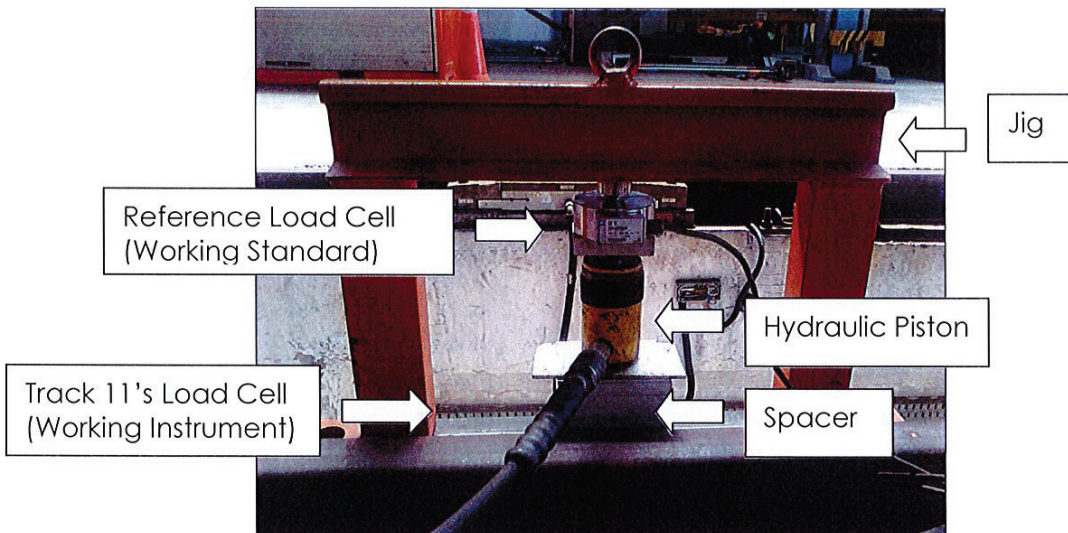

Figure 6.1.3.1 The apparatus arrangement
4. Proceed with the process depicted in Figure 6.1.3.2 for span adjustment on Flintec indicator.